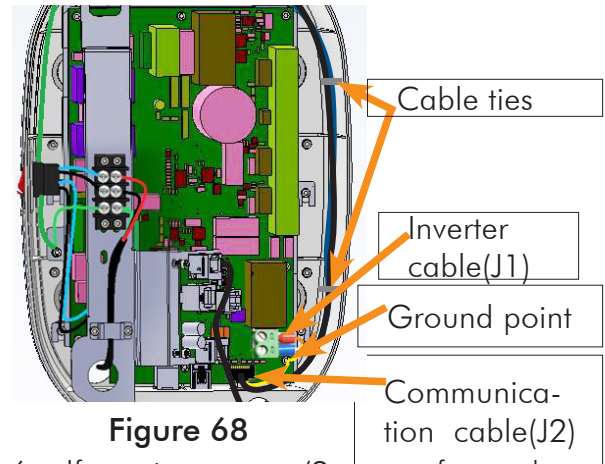

Figure 68
- Cut the 2 cable ties inside the base unit located on the right side of the power board as shown in Figure 68 .
- Disconnect the Inverter power cable from J1 connector using screw driver and communication cable from J2 connector on the power board as shown in Figure 68 .
- Remove the GND wires of both the cables by removing M3x6 HSHC screws using 2.5 mm Allen key as shown in Figure 68 .